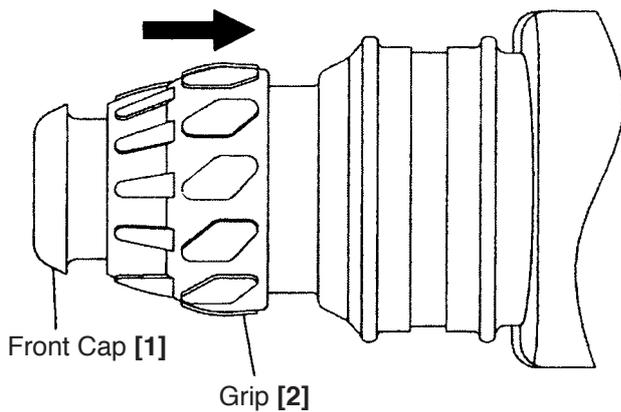
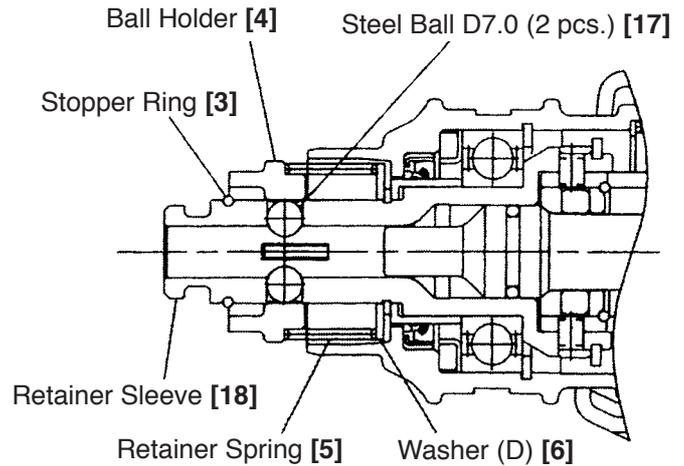

Fig. 13
Fig. 14
(1) Disassembly of the retainer
As shown in Fig. 13, pull the Grip **[2]** fully in the arrow direction and remove the Front Cap **[1]**. (Pull the Front Cap **[1]** strongly because it is made of rubber and fitted to the grip securely.) Then, the Grip **[2]** can also be removed. Remove the Stopper Ring **[3]** with a retaining ring puller. The Ball Holder **[4]**, two Steel Balls D7.0 **[17]**, Retainer Spring **[5]** and Washer (D) **[6]** can be removed from the Retainer Sleeve **[18]**. (Fig. 14)